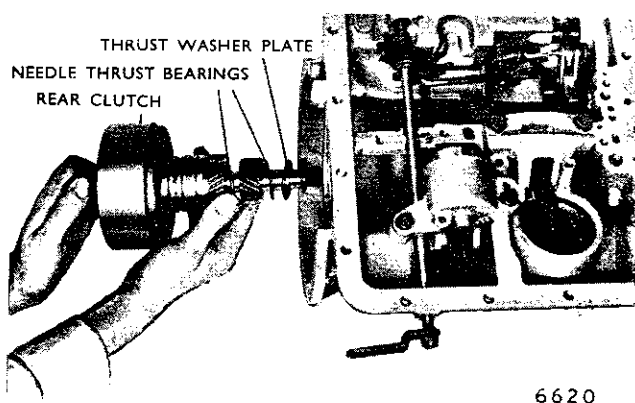

Fig. 48—Installing rear clutch retainer assembly (typical view)
(1) Inspect the 2 small interlocking oil rings in the intermediate shaft and install a new teflon seal in rear groove.
(2) Install needle thrust bearing (19 x 1,98 mm (.078") rollers) and thrust plate to the rear face of the rear sun gear, with the thrust plate lip towards the output shaft. (Refer Fig. 48).
(3) Position the needle roller thrust bearing 41 mm (1-5/8") diameter against the forward face of the sun gear and install the sun gear intermediate shaft into the rear clutch assembly.
(4) Carefully install the rear clutch assembly into the gear carrier assembly (Refer Fig. 48).